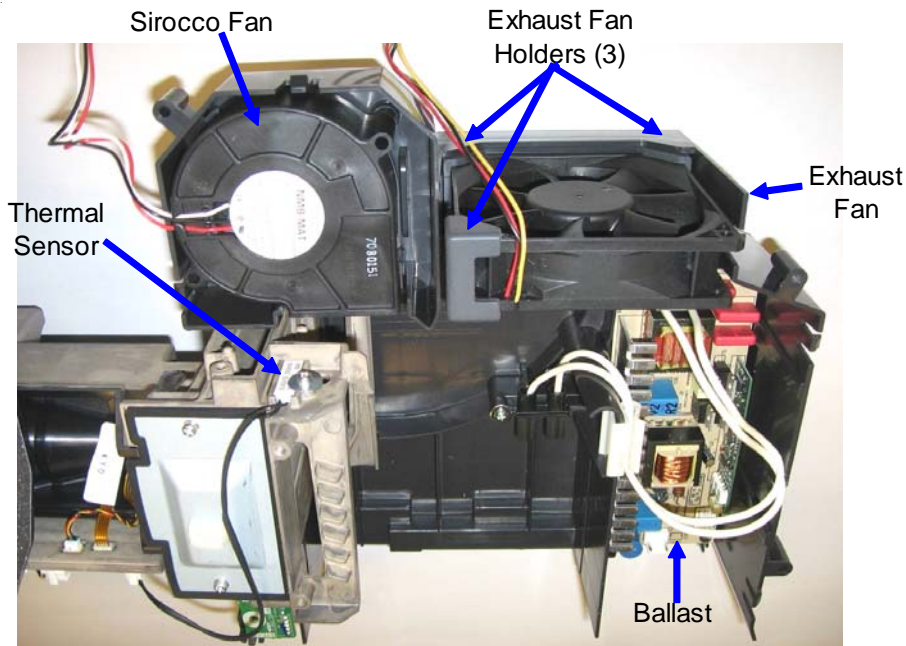

Figure 3: Lower Duct (Top View)
- 1) *Figure 3* shows the components in the Lower Duct.
- 3) If replacing the Engine, remove the Thermal Sensor from the Engine (1 screw) *Figure 3*.